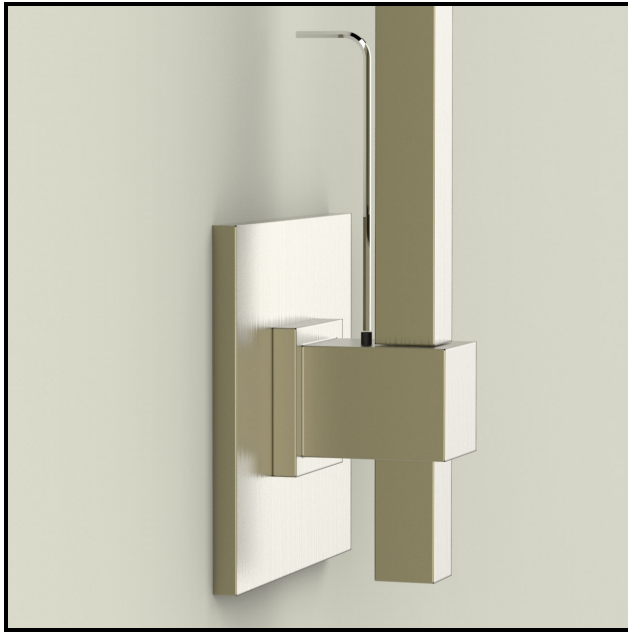

Figure 21
- With fixture seated, use hex key to secure set screw onto flat spot on post. Repeat process on top and bottom arm blocks (Figure 21).